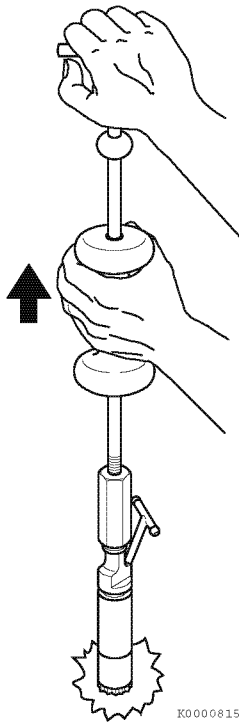

Figure 7-43
*Note: The fuel injectors can usually be removed by manually pulling them out of the fuel injector wells. If the fuel injectors cannot be manually removed, use the fuel injector removal tool, YANMAR Part No. 129470-92305, and a slide-hammer puller (**Figure 7-43**).*